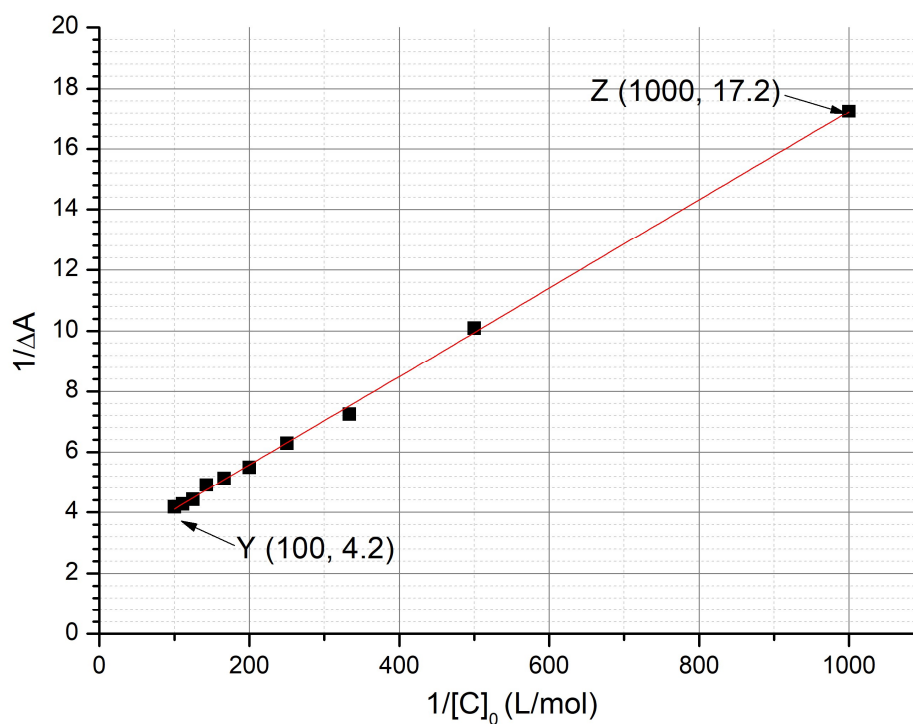

Fig. 3 – Graph of $1/\Delta A$ as a function of $1/[C]_0$.
6. **Determine** K_t using the following experimental curve (Fig. 3).